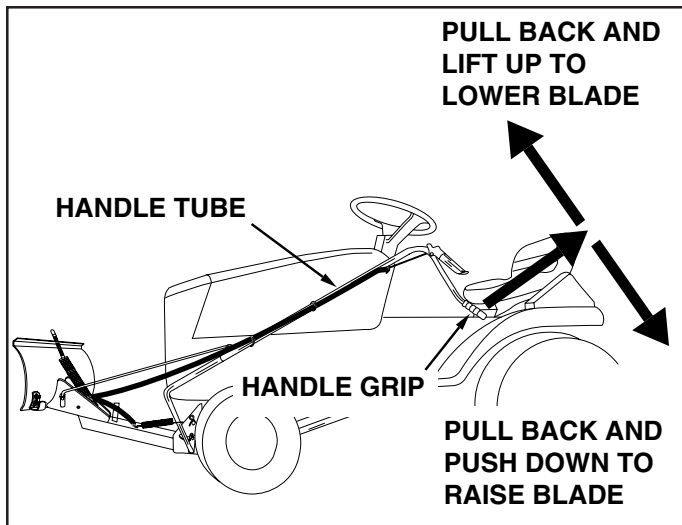

FIGURE 21
- Use the handle grip located on the on the end of the handle tube. To raise the blade, pull back while pushing down on the handle grip. To lower blade, pull back while lifting up on handle grip. See figure 21.